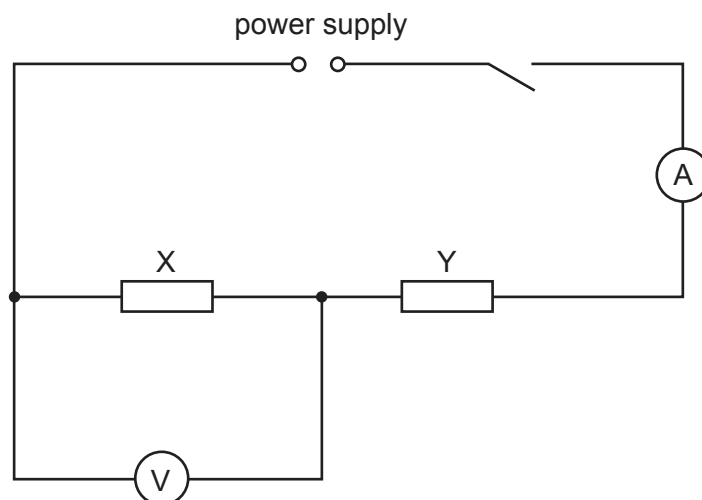

Fig. 2.1
- (vi) Sufficient connecting leads to construct the circuit shown in Fig. 2.1, with two additional leads. See note 3.
1. The components are to be connected by the supervisor as shown in Fig. 2.1.
Set up the circuit so that it is arranged as shown in Fig. 2.1.